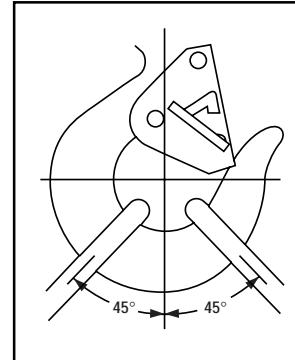

Figure 5
- When placing two (2) sling legs in hook, make sure the angle from the vertical to the outermost leg is not greater than 45°, and the included angle between the legs does not exceed 90° (See Figure 5).
* For angles greater than 90°, or more than two (2) legs, a master link or bolt-type anchor shackle should be used to attach the legs of the sling to the hook.